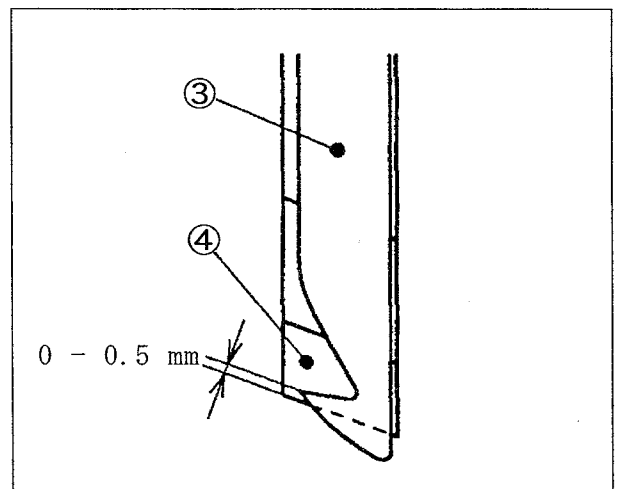

Fig. 9-5
The engagement between the movable trimming knife ③ and the fixed trimming knife ④ has been adjusted as shown in Fig. 9-5.